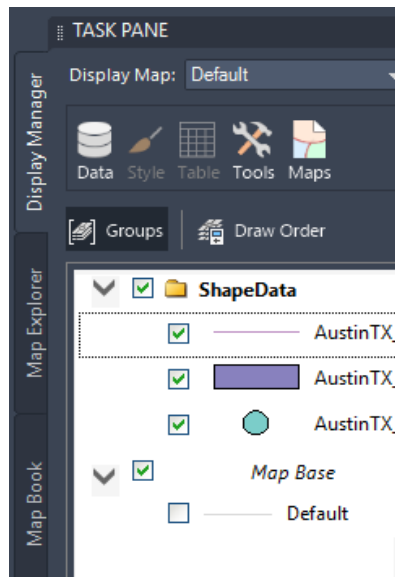

Figure 2-29 The **Display Manager** tab showing the added SHP file data
14. The **Display Manager** tab of the **TASK PANE** displays the name of the shape data added to the drawing, as shown in Figure 2-29.